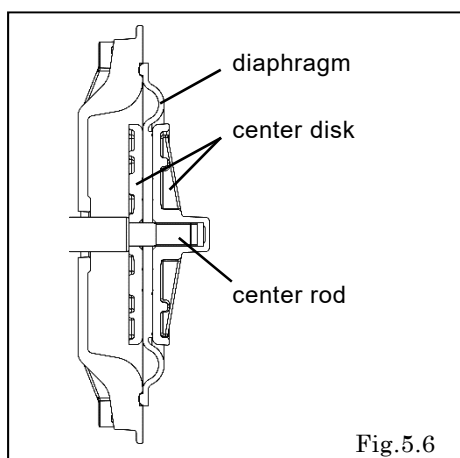

Fig.5.6
- Draw the center disk to one side. <Fig.5.6>